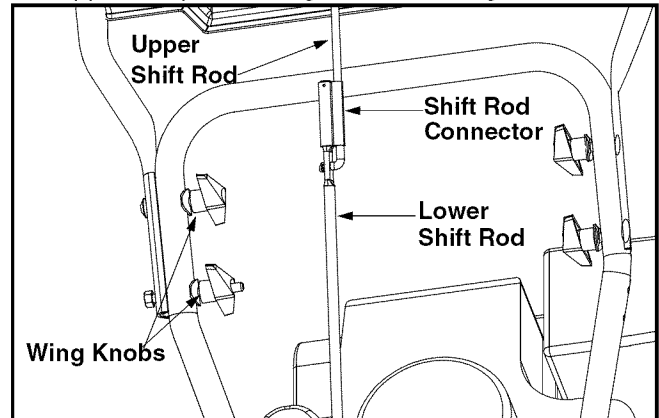

Figure 3
- Secure the upper handle and lower handle with the two plastic wing knobs, cupped washers and carriage bolts previously removed and tighten the upper two plastic wing knobs. See Figure 3.
- Slide the shift rod connector down over the end of the lower shift rod. Tap the connector until it **locks** on the lower shift rod. See Figure 3.